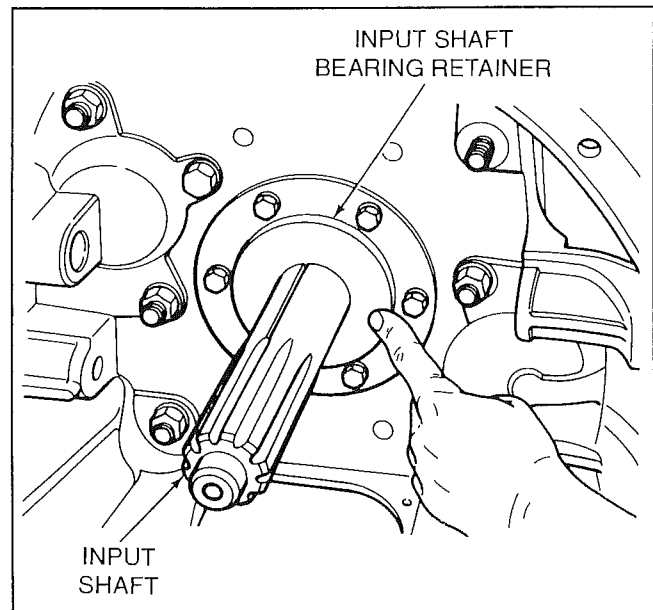

Figure 9-16. Input Shaft Bearing Retainer
2. If applicable, check the input shaft front bearing retainer for excessive clutch brake wear (Fig. 9-16). Refer to the transmission or vehicle manufacturer's specifications and recommended corrective actions.